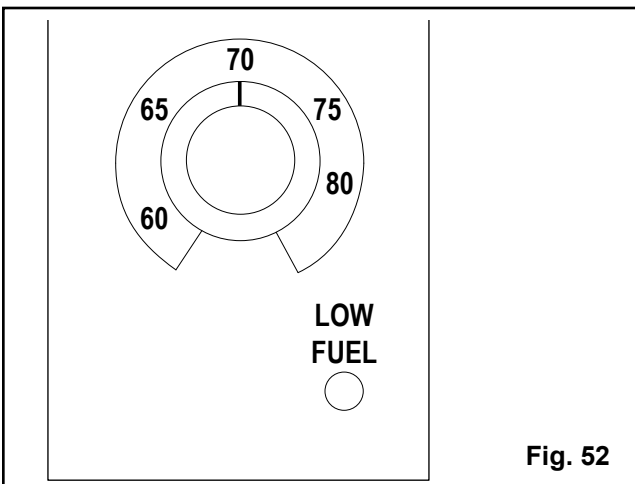

Fig. 52
7. **Turn the Temperature Dial** on the wall control to desired room temperature. Note: The set temperature on the dial must be higher than the room temperature for the fire to light, Fig 52.